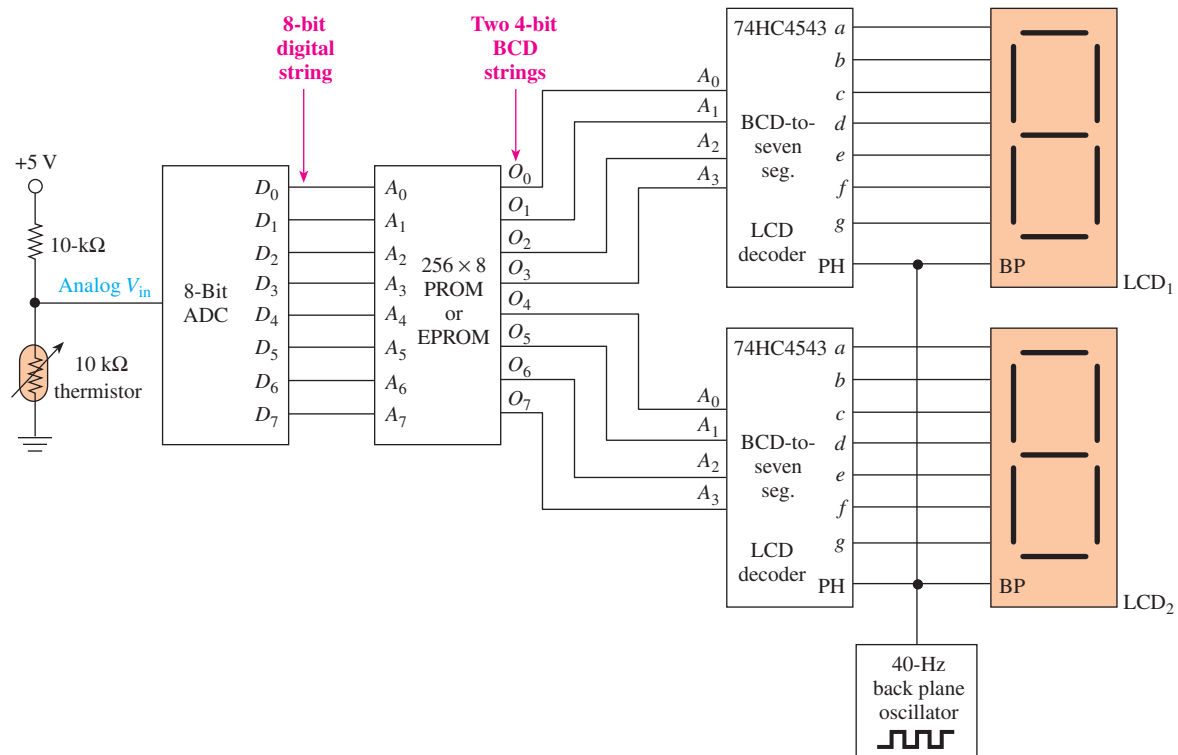

Figure 16–23 Using a PROM as a look-up table for binary-to-BCD conversion for an LCD thermometer.
The 74HC4543 will convert its BCD input into a seven-segment code for the liquid-crystal displays (**LCDs**). Liquid-crystal displays consume significantly less power than LED displays but require a separate square-wave oscillator to drive their backplane. As shown in Figure 16–23, a 40-Hz oscillator is connected to the phase input (PH) of each decoder and the backplane (BP) of each LCD.
16–22. Determine which EPROM and which EPROM address are accessed when the microprocessor of Figure 16–20 issues a Read command for the following hexadecimal addresses: